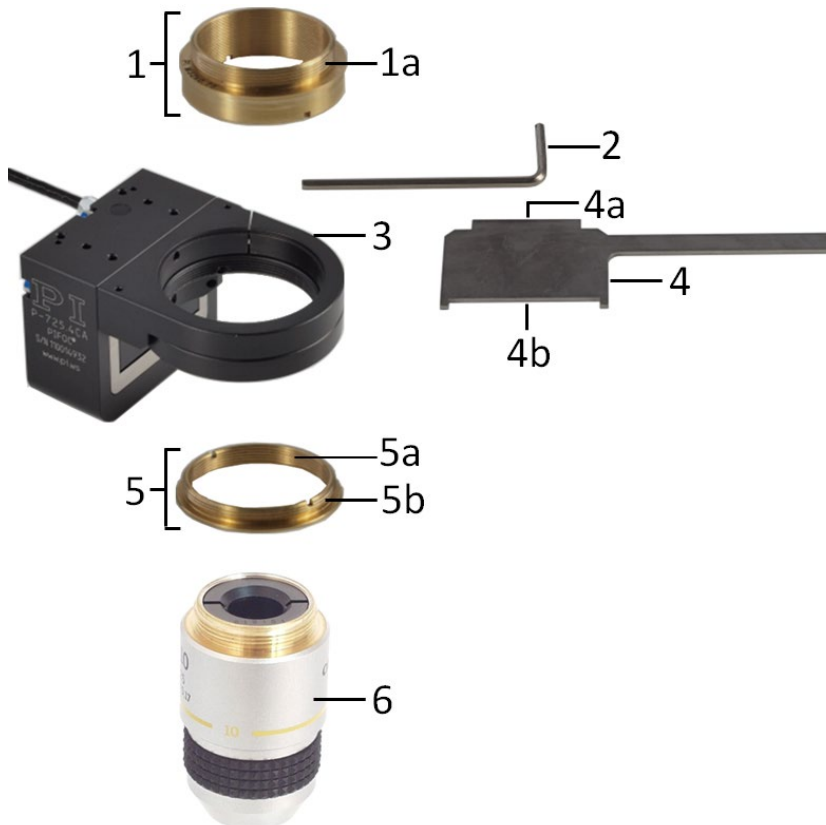

Fig. 4: P-721.xxA thread adapter with PIFOC positioner and microscope objective
- Hex key supplied (see Fig. 4, p. 8)
- Key tool supplied (see Fig. 4, p. 8)